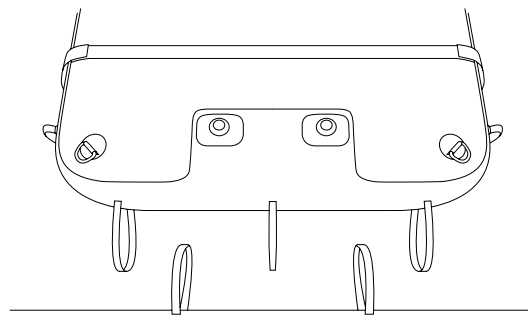

Fig 60 – Correct alignment of Air Toggle loops between the Platforms being connected
3. Ensure the first Platform is secured to the vessel and has the correct side free for correct alignment of the Air Toggle loops. Check that there are two Air Toggle loops on the side of the first Platform and three Air Toggle loops on the end of the 2nd Platform (Fig 60).